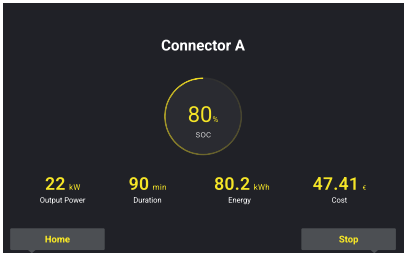

Figure 6-5 Charging Screen
D. After authorisation, the DC 180 will set up communication with your EV and necessary safety tests will be performed. Following the safety tests, the charge session will start automatically. Information such as charging power, state of charge, energy delivered, duration and cost will be displayed. (see Figure 6-5 Charging Session)